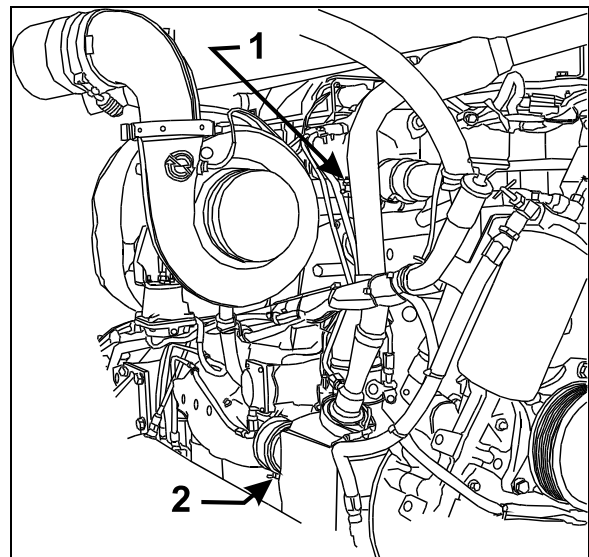

FIGURE 9: ENGINE COOLANT DRAIN COCKS 05088
4. Open drain cock at bottom of thermostat housing to drain the coolant trapped above the thermostats (1, Fig. 9).
6. Open engine drain cock (2, Fig. 9).